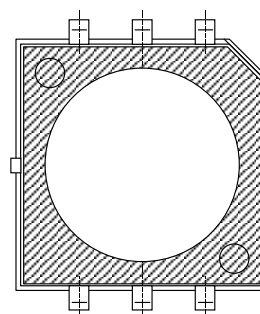

Figure 2
Note 3: The standard surface of measurement is the shaded area in Figure 2.
- The recommended standard mounting surface for this LED is the shaded area shown in Figure 2 below.